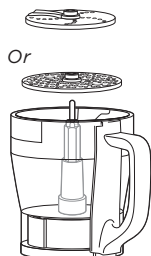

Fig. 8
- 5 Hold the disc by the plastic hub and carefully place the shredding/slicing disc or the grating disc onto the spindle. (Fig. 8)